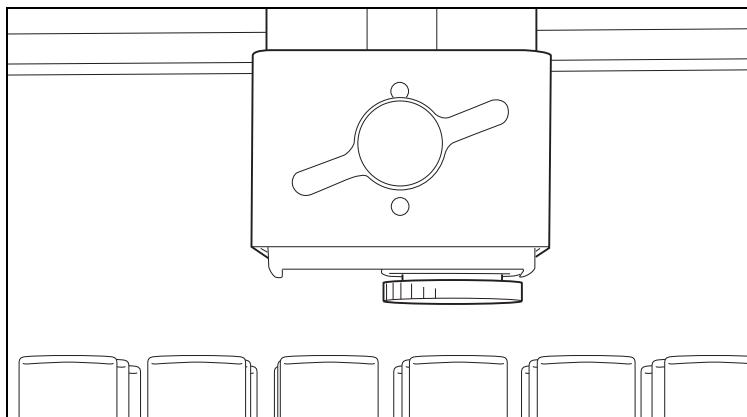

Figure 2-14 Diverter Valve adjusted with 1/2 inch or 1 cm clearance (standard diverter valve shown)
4. Lower the diverter valve so that the drop former is close to the top of the collection tubes (Figure 2-14). Generally, a 1/2-inch or 1 cm space between the drop former and the top of the tubes will sufficiently allow unobstructed movement of the arm.